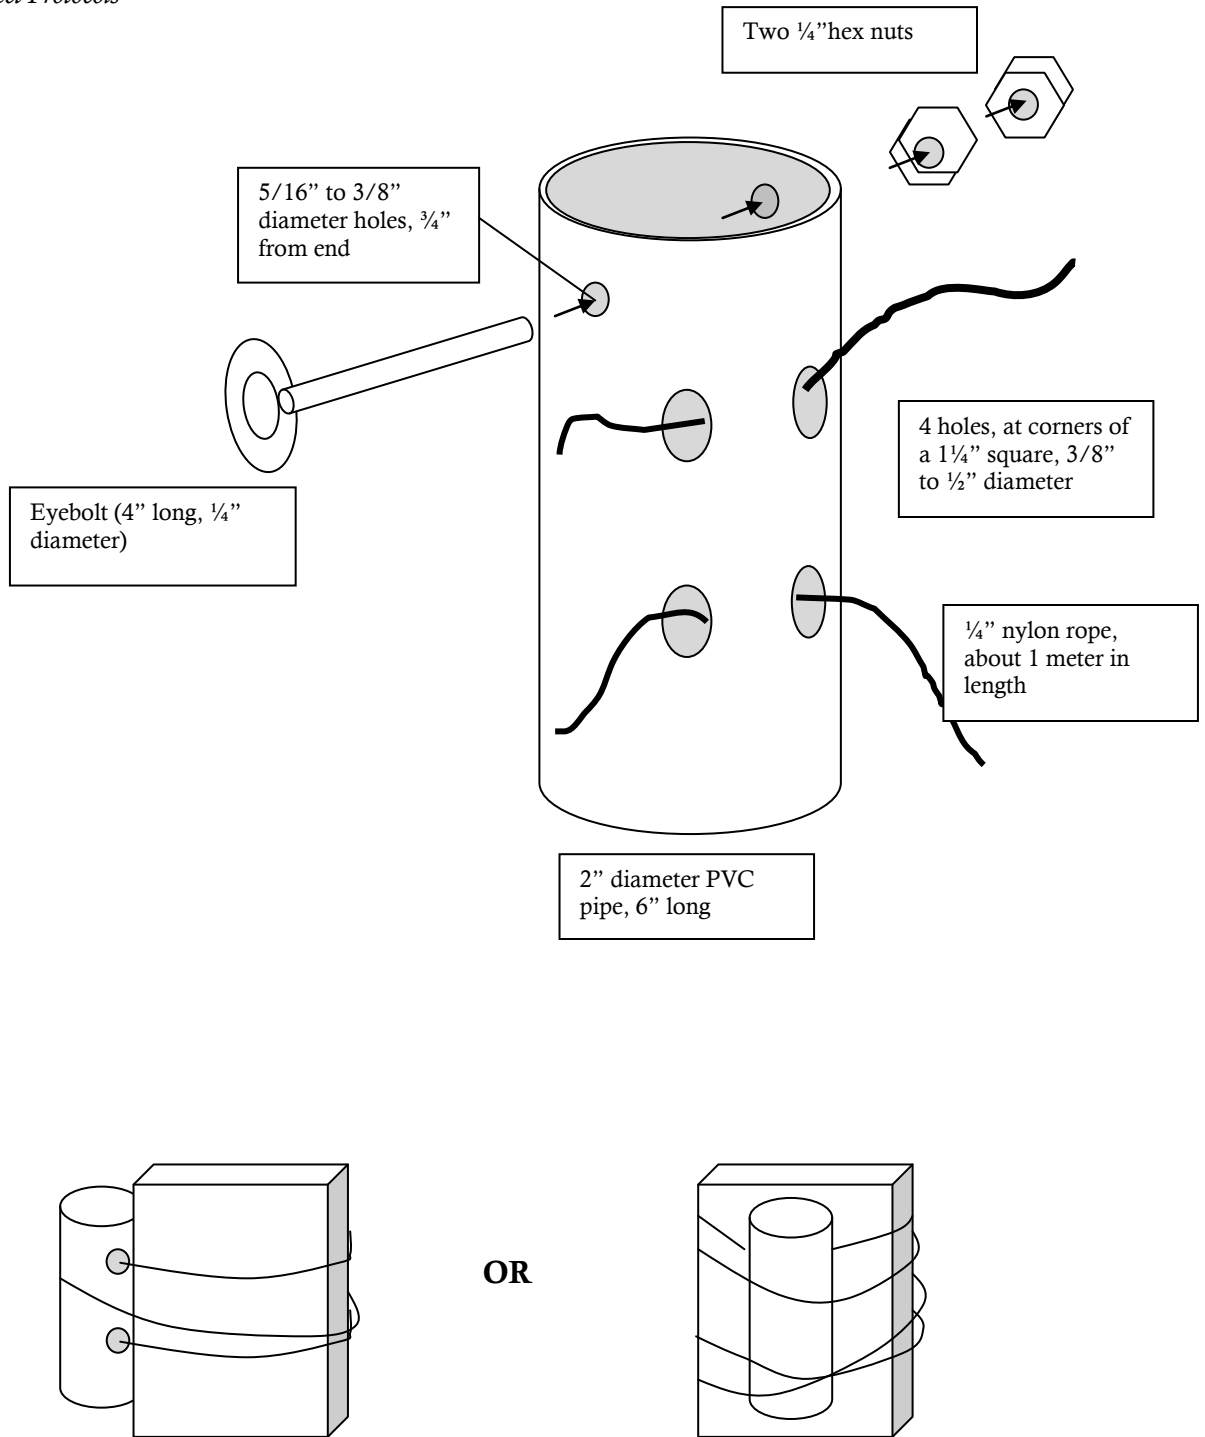

Figure A-1. Diagram of the construction of the stream datalogger protector from 2" PVC pipe and its attachment to a paving stone.
- Place a calibrated datalogger into a PVC protector and attach it using the 4-inch eyebolt and nuts. Thread the bolt through one hole in the plastic pipe, through the datalogger and out through the opposite hole in the pipe. Secure with two nuts or a locking nut (Figure A-1).